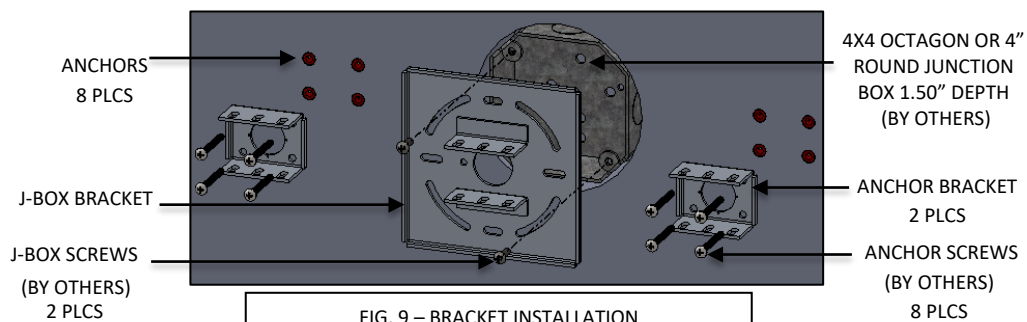

FIG. 9 - BRACKET INSTALLATION
5. Attach BRACKETS to the JBOX (BY OTHER) AND WALL by means of ANCHOR SCREWS (BY OTHERS) as shown in FIG.9.